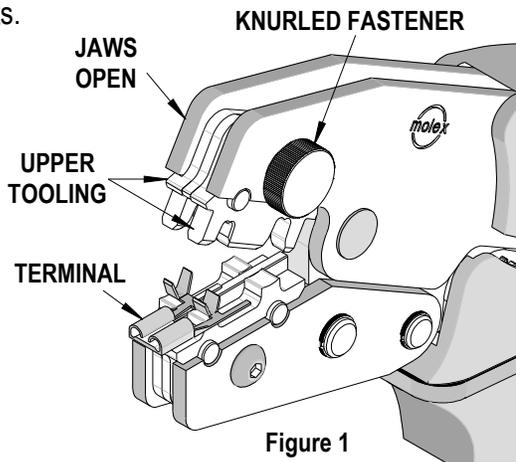

Figure 1
2. Before attempting to crimp any terminals, make sure all the upper tooling is correctly placed into the upper jaw. The desired nest being used for the proper wire size should be in the forward position, (The marking on the upper tooling “A” for 1.0mm² or “B” for 18 AWG and 0.8mm²). This is done by removing the knurled fastener that holds the upper tooling in place and then rotating it 180° to the correct position. Then, re-installing the fastener. See Figure 1.